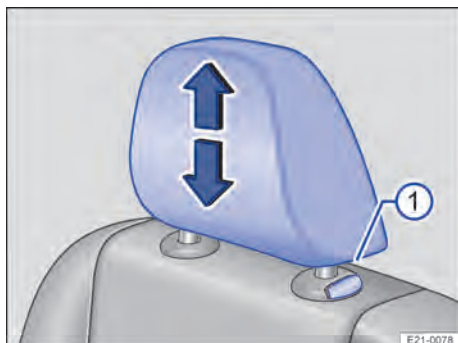

Fig. 72 On the rear seats: removing the head restraint.
- Pull the head restraint out fully while pressing the button → Fig. 72 ①.